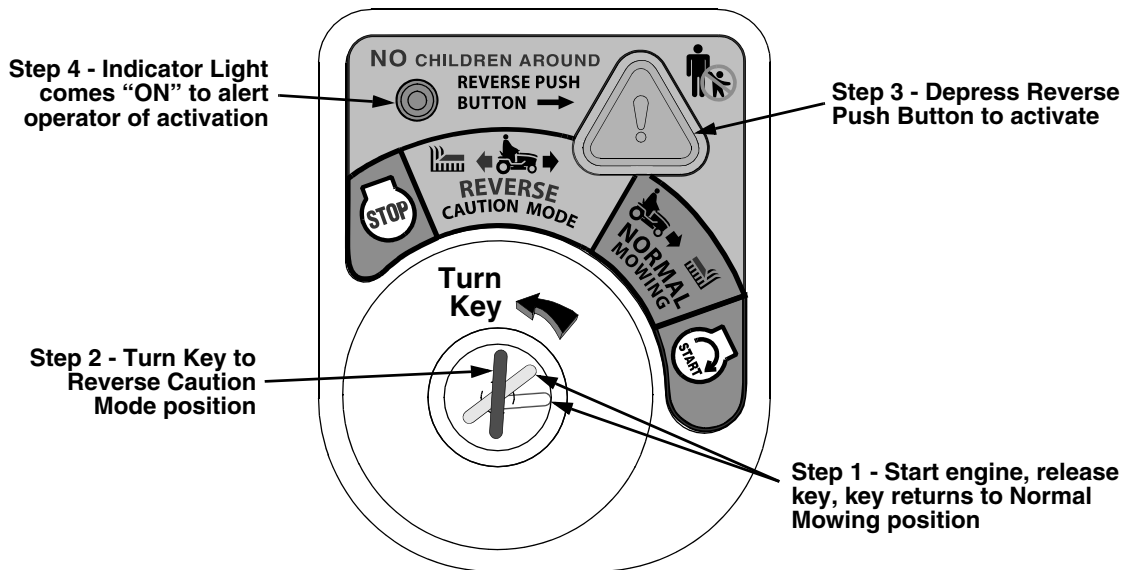

Figure 11
MODE” (Yellow) position of the key switch module. Refer to Figure 11.
3. Depress the “REVERSE PUSH BUTTON” (Orange/Triangular Button) at the top/right corner of the key switch module. The red indicator light at the top/left corner of the key switch module will be “ON” while activated. Refer to Figure 11.